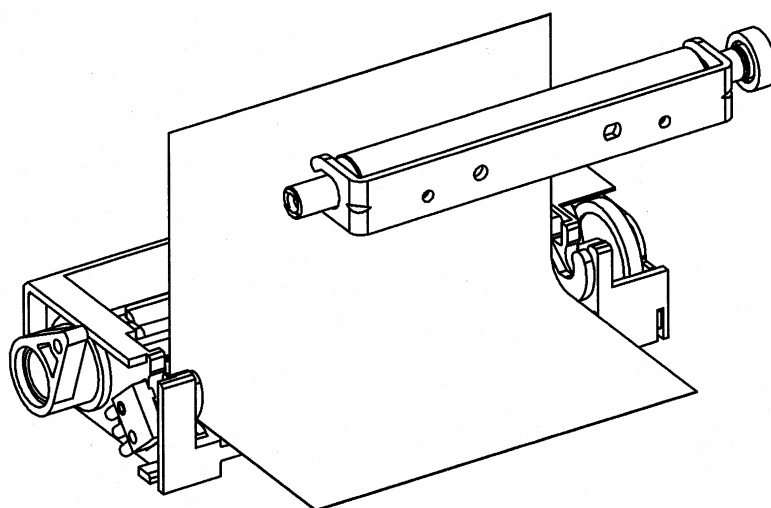

Figure 8-2 Loading Paper (2)
- Insert the paper vertically into the printer. (See **Figure 8-2**).